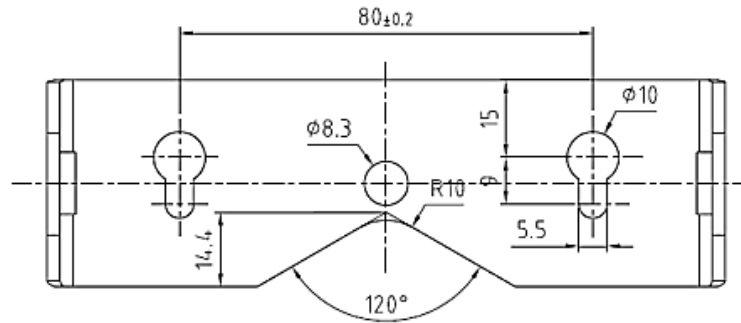

Figure 2-7: Hole Pattern Template for Mounting Brackets
3. Mark the position of the bracket mounting holes on the surface to which the terminal will be mounted using the dimensions shown in Figure 2-7, or by holding the terminal up to the surface and marking through the bracket holes.